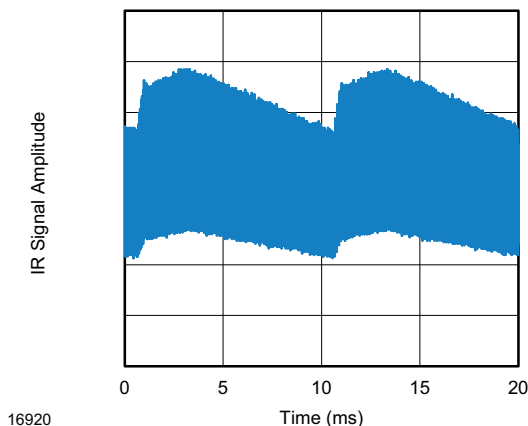
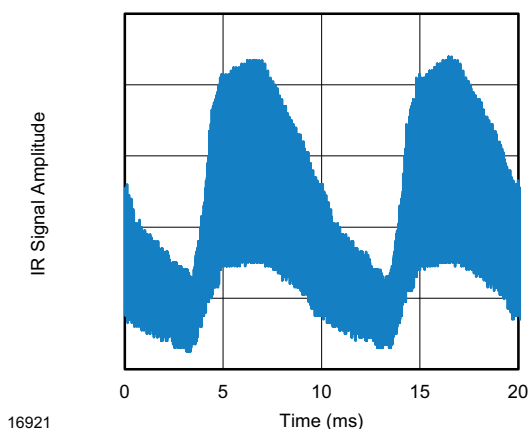

Fig. 13 - IR Disturbance from Fluorescent Lamp With Low Modulation
Fig. 14 - IR Disturbance from Fluorescent Lamp With High Modulation
- Strongly or weakly modulated pattern from fluorescent lamps with electronic ballasts (see Fig. 13 or Fig. 14)